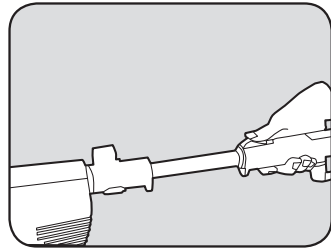

Fig. 6
2. Extend the telescopic wand to the desired length. (Fig. 6)